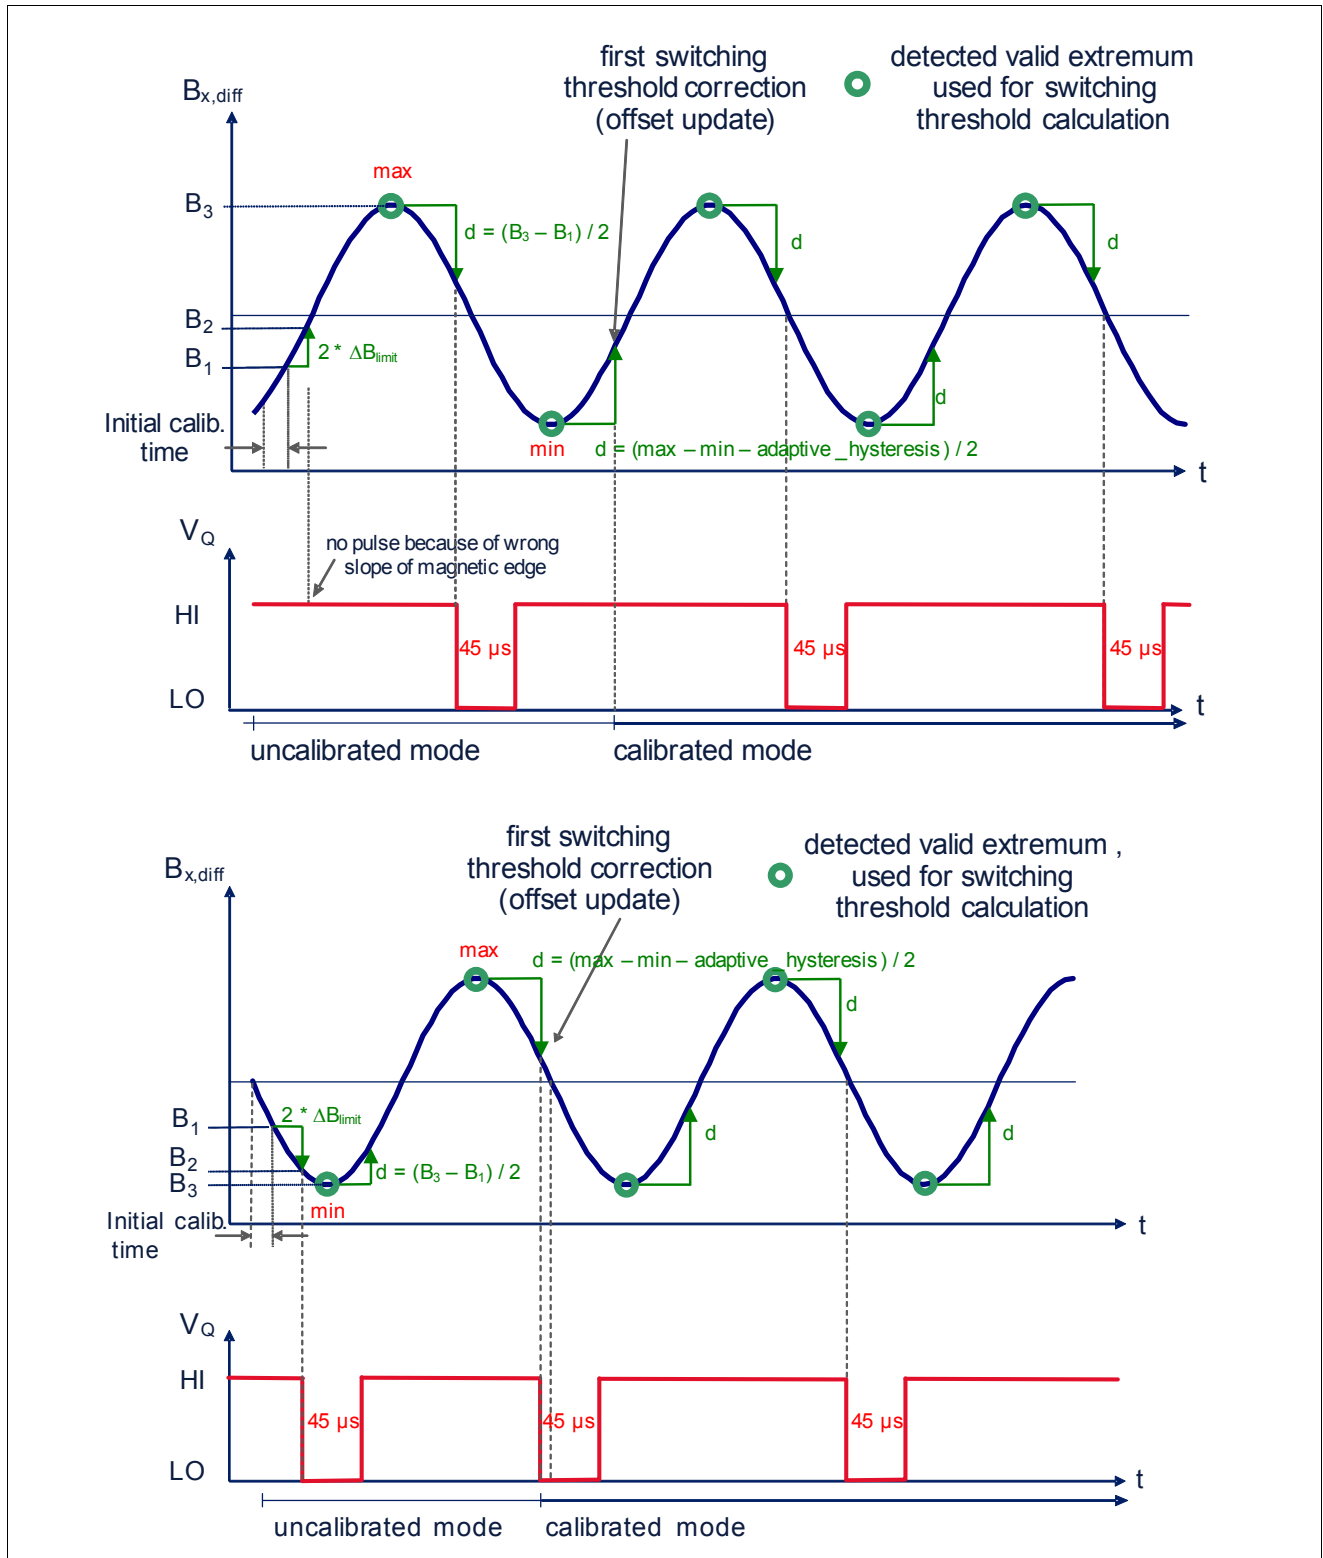

Figure 5 Operating Phases - Power-on to Running Phase
- Initial phase (Figure 5 "uncalibrated mode")
- Calibration phase 1 (Figure 5 "calibrated mode")